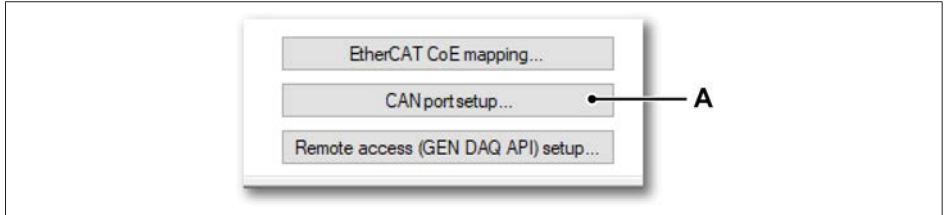

Fig. 12.14 Opening CAN port setup options
1. Publish to CAN is disabled and must be enabled by opening the **CAN port setup** (see Fig. 12.14).